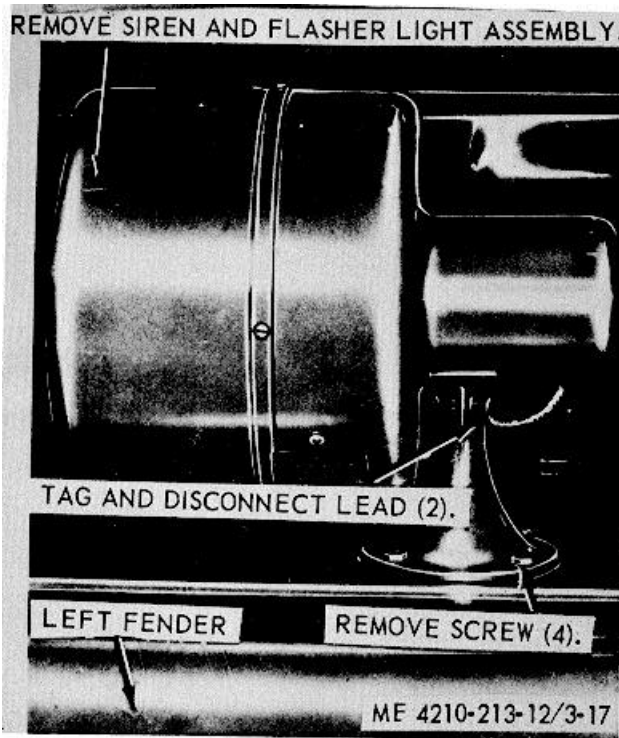

Figure 3-17. Siren and flasher light, removal and installation.
a. *Removal.* Refer to figure 3-17 and remove the siren and flasher light from the fire truck fender.
e. *Installation.* Refer to figure 3-17 and install the siren and flasher light On the fire: truck fender.